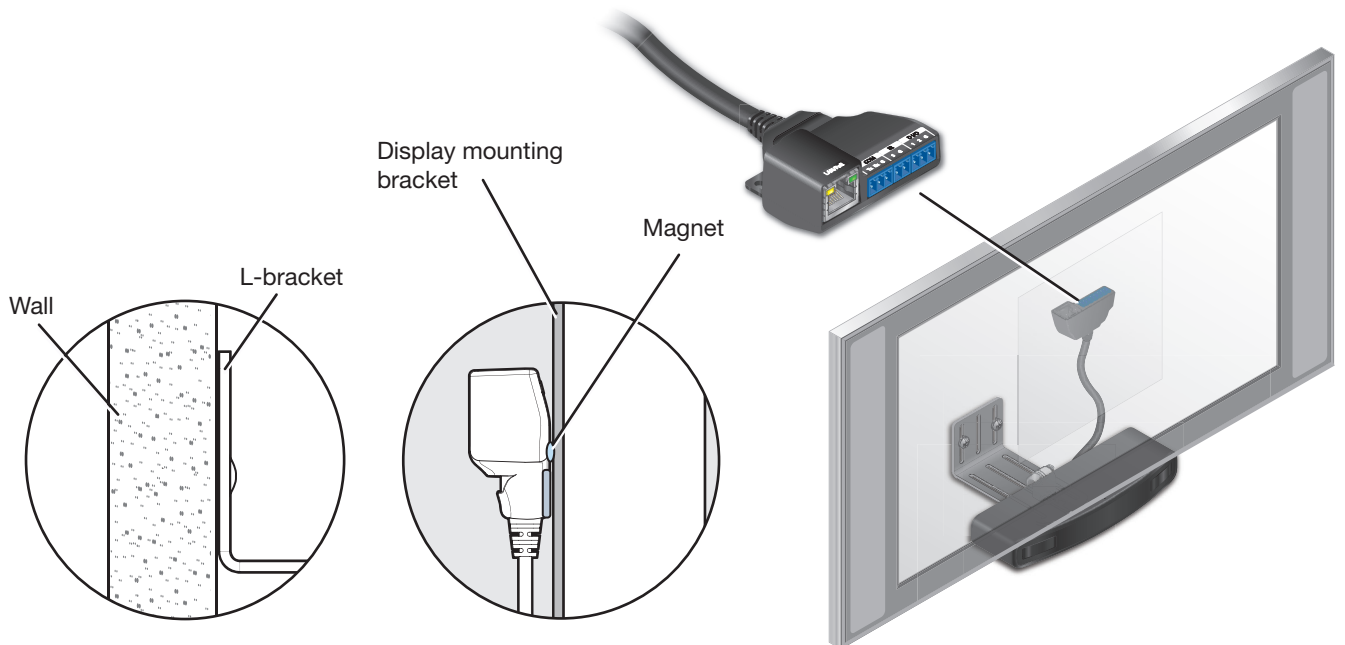

Figure 15. Mount the WC Pro 150 OCS
1. Secure the WC Pro 150 OCS above or below the display (see figure 15 on page 18):